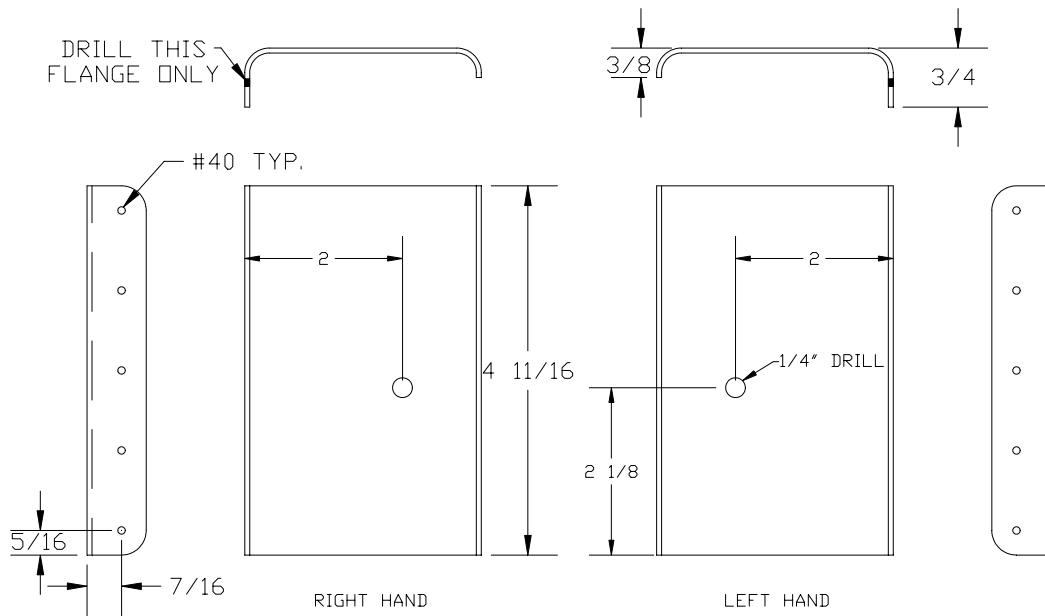

FIGURE 35
67) From FUS-386 channel cut four 4 11/16" lengths for rudder cable pulley mounts. Trim flanges and drill as in Figure 35.